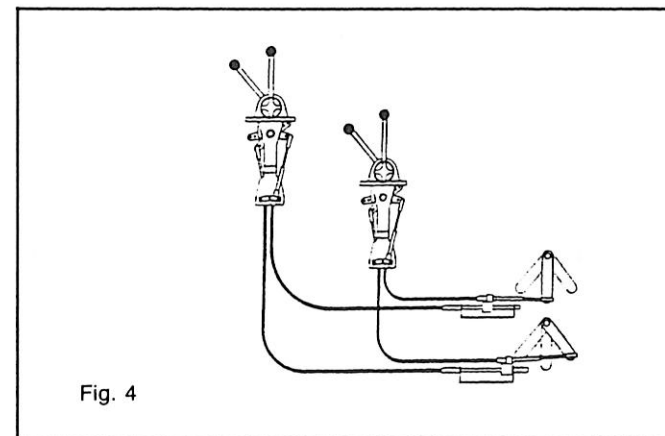

Fig. 4
3) **INSTALLAZIONE CON SELETTORE FIG. 4**
3) **INSTALLATION WITH SELECTOR FIG.4**
3) **INSTALLATION AVEC SELECTEUR FIG. 4**